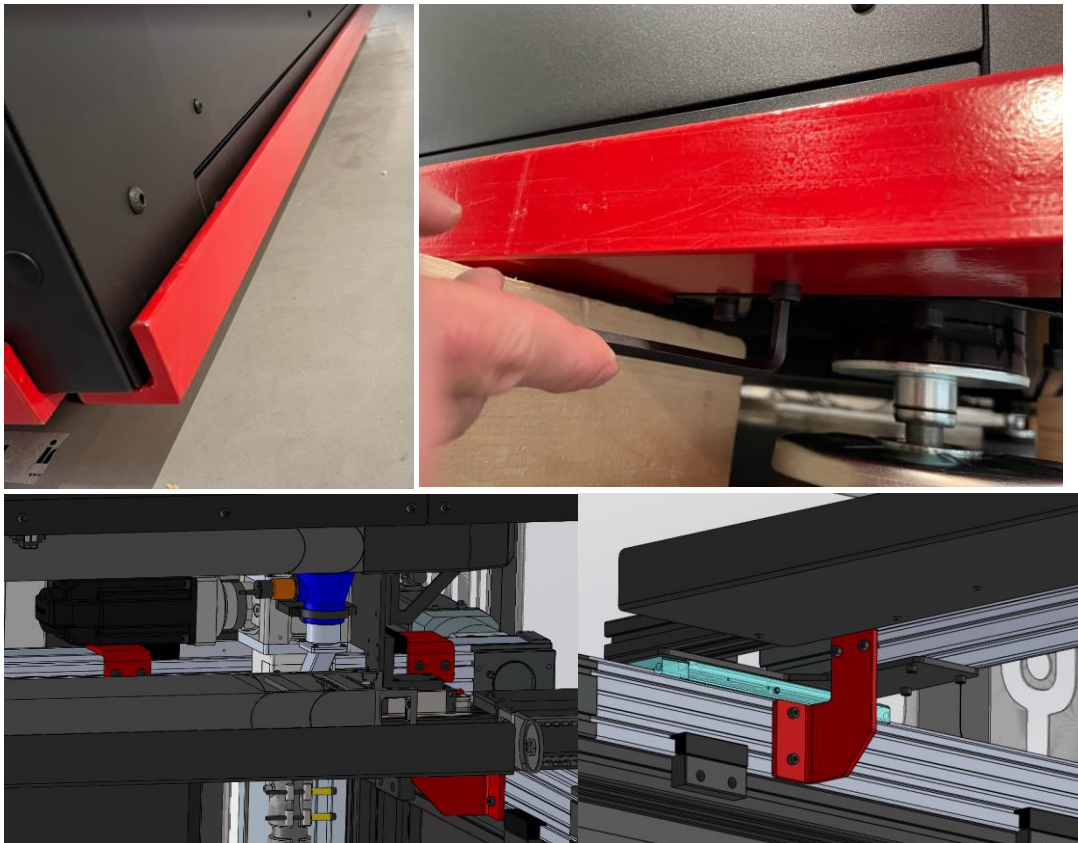

Figure 13c
- Remove all red supports. Use Allen key to remove screws. Note that the support under Magnum is heavy. It can be good to put something under it during disassembly. See fig 13c.